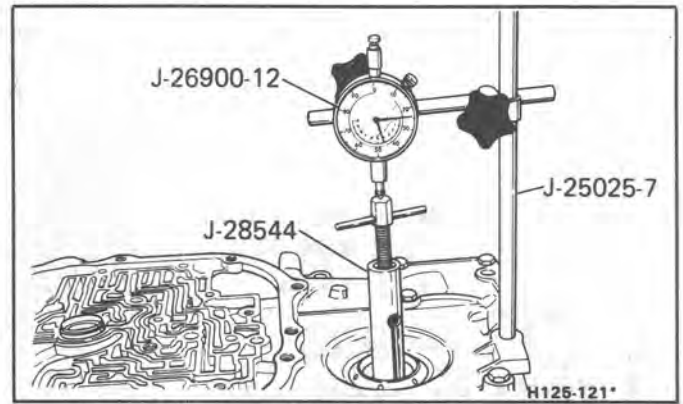

Figure 86 Input Shaft to Case Cover End Play
**Measure (Figures 86 and 87)**